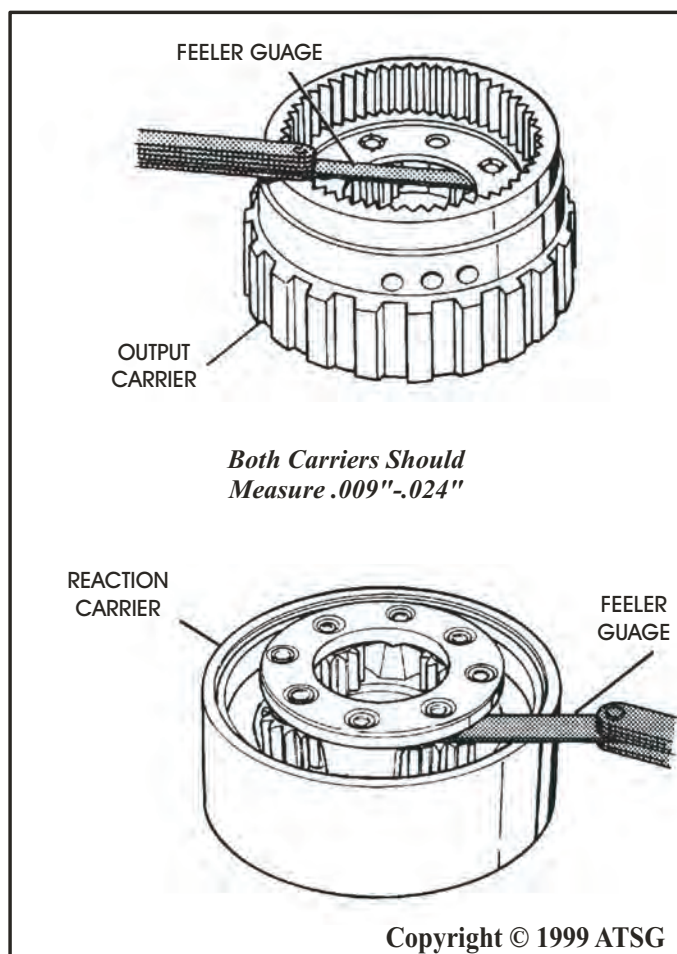

Figure 57
4. Measure reaction carrier planetary pinion end play using a feeler guage (See Figure 57).
5. Measure output carrier planetary pinion end play using a feeler guage (See Figure 57).